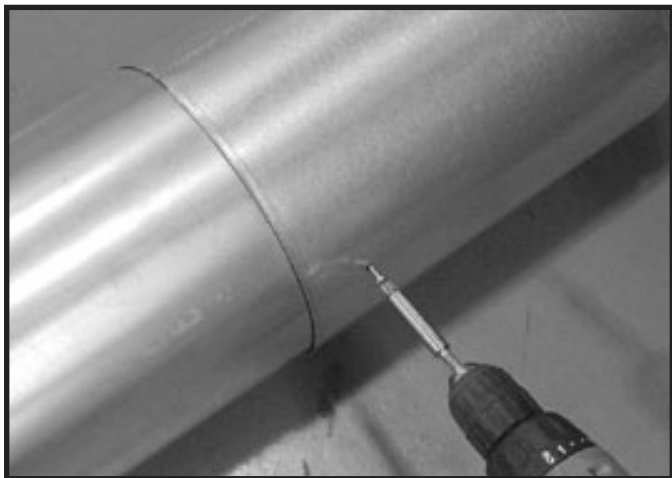

Figure 7.6 Screws into Slip Section
- Secure the pipe and slip section with two screws no longer than 1/2 in. (13 mm), using the pilot holes in the slip section. See Figure 7.6.